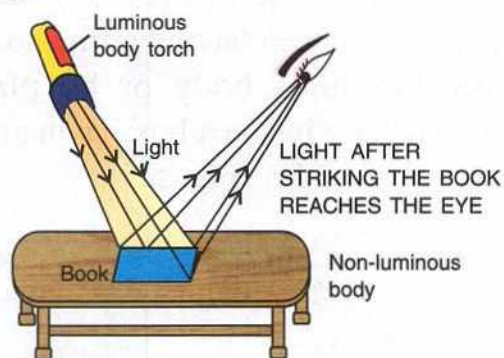

Fig. 5.2 Visibility of a non-luminous body (book)
2. Non-luminous bodies : The bodies which do not emit light by their own, but become visible (or they shine) by the light falling on them from some luminous body, are called non-luminous bodies. The moon, earth, a table, a book, a chair etc. are non-luminous bodies. A non-luminous body becomes visible when light from a luminous body falls on it and after striking it, light reaches our eyes. Fig. 5.2 shows how a non-luminous body (say, a book) becomes visible when light from a torch reaches our eyes after striking the book.